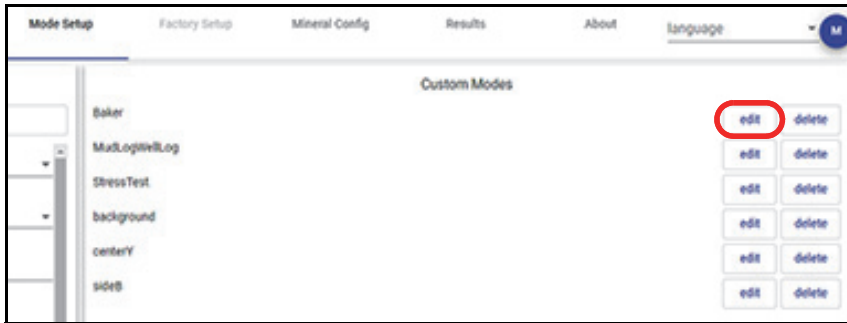

Figure 5-14 Edit buttons
1. Click an **Edit** button (see Figure 5-14 on page 80).